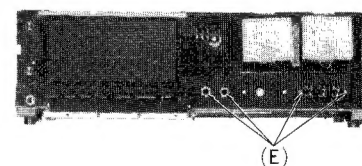

Fig. 4
- a. Number of figure: 4 (decimal system)